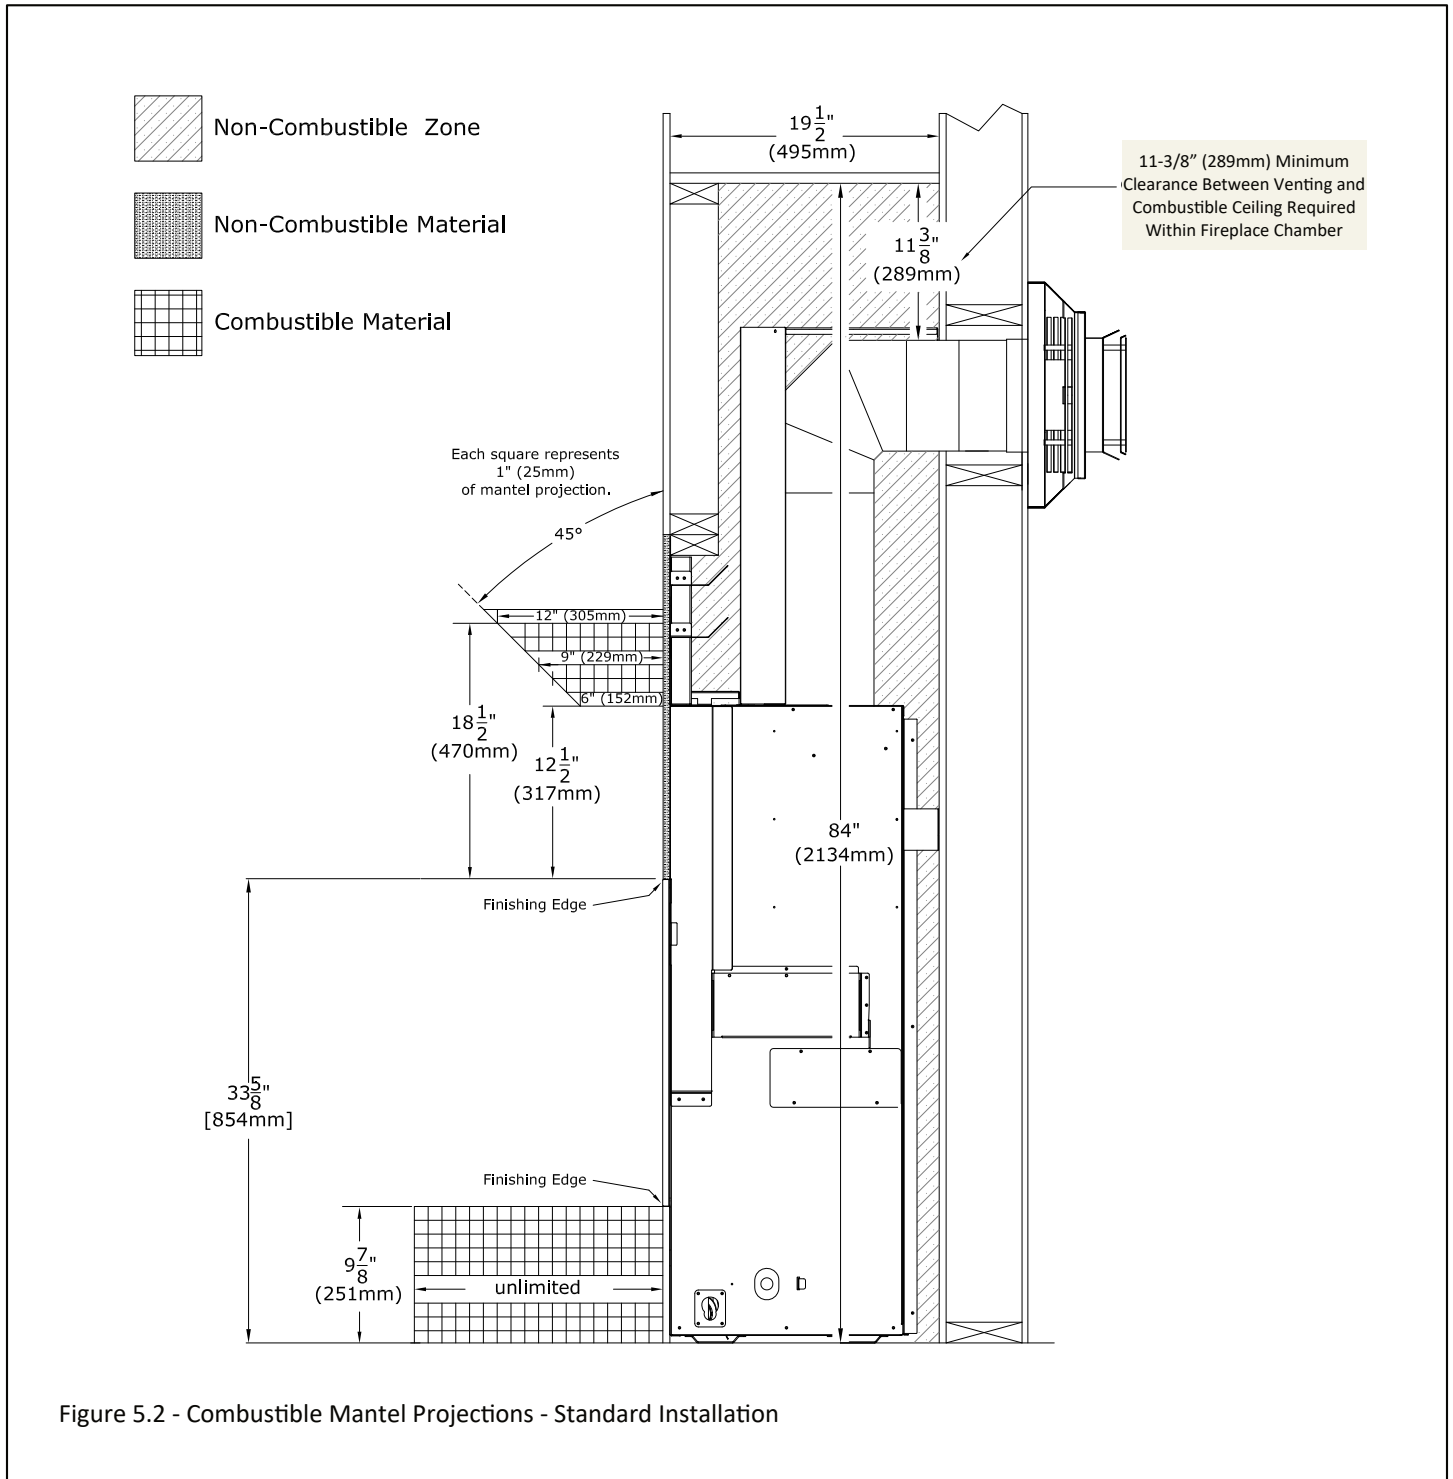

Figure 5.2 - Combustible Mantel Projections - Standard Installation
- Combustible Mantel Projections: As referenced in Figure 5.2 the 6" (152mm) mantel starts at 12-1/2" (317mm) above the top finishing edge. Mantel projections can increase 1" (25mm) of depth for every 1" (25mm) of height starting at the 6" (152mm) mantel.
Figure 5.2 shows a 6" (152mm) combustible mantel projection starting 12-1/2" (317mm) up from the top finishing edge of the fireplace. The dimensions shown are allowed in standard installation scenario. Mantel projections can increase 1" (25mm) of depth for every 1" (25mm) of height starting at the 6" (152mm) mantel. A combustible hearth is allowed with unlimited projection starting at 0" (0mm) from the bottom finishing edge of the fireplace.